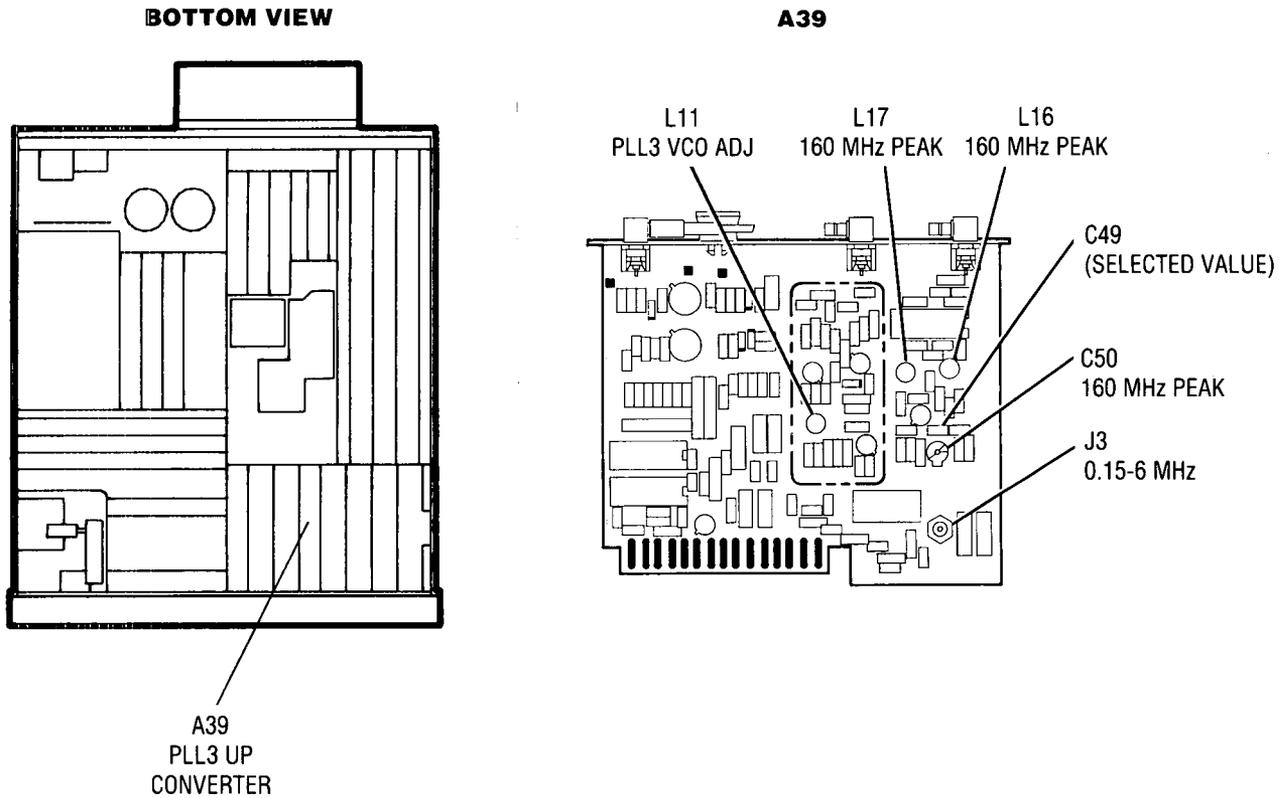

Figure 5-11. Location of PLL3 Adjustments
35. Adjust A39L16, A39L17, and A39C50 (160 MHz PEAK) for maximum signal level at 160 MHz. Iteration of L16 and L17 adjustment may be necessary. Refer to Figure 5-11 for location of adjustments.